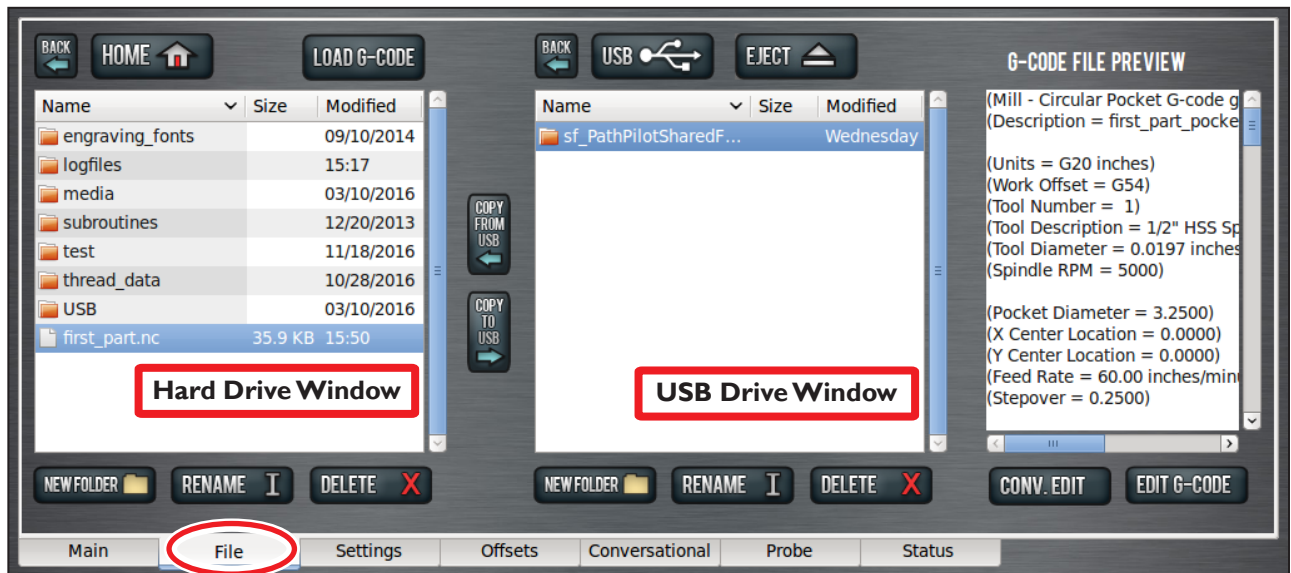
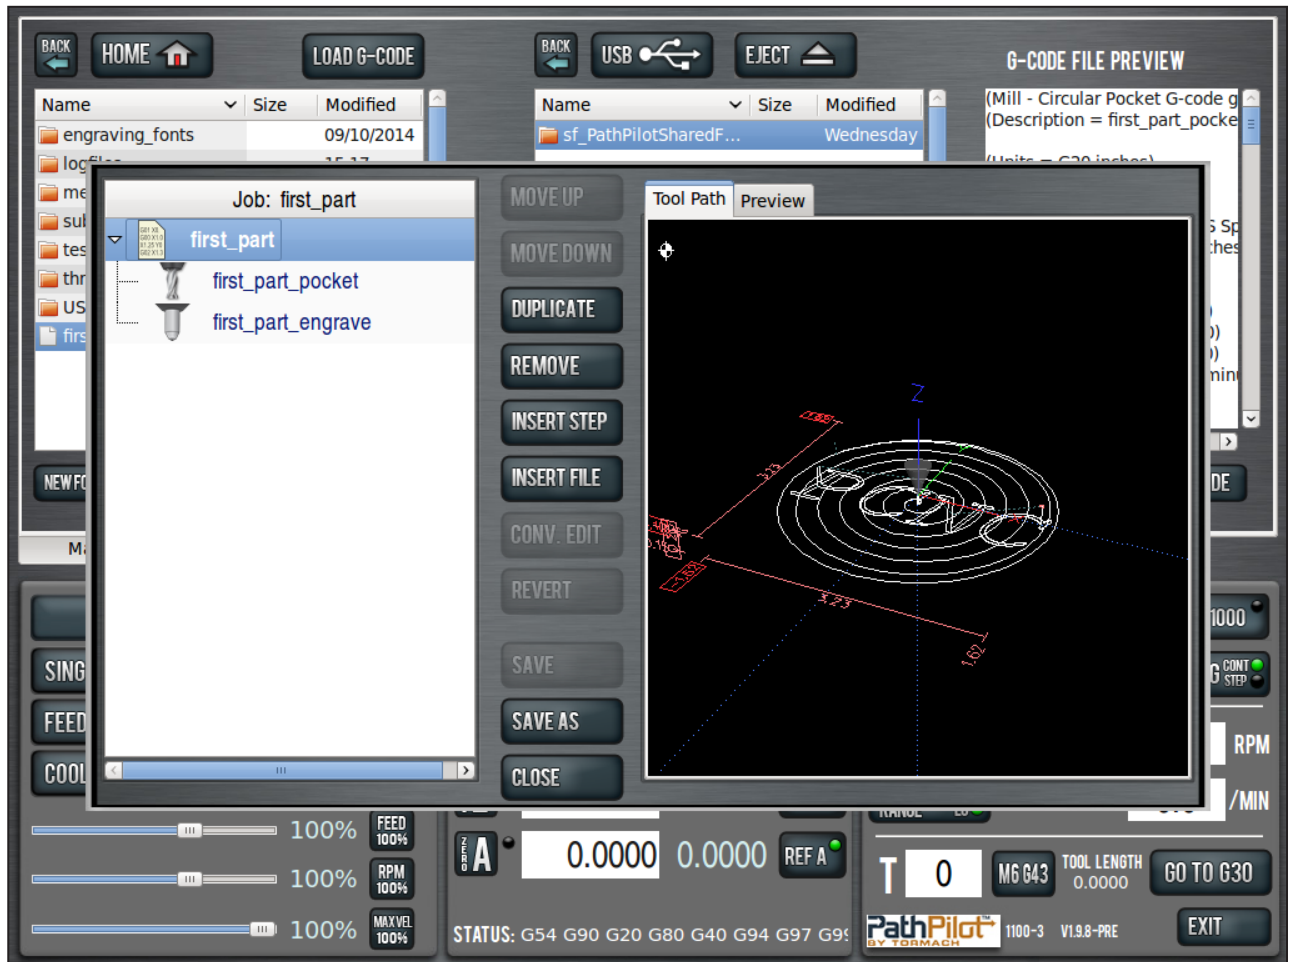

Figure 6.14
Figure 6.15
The *File* tab is used to transfer files to and from a USB drive, copy, delete, and rename files and folders (see **Figure 6.14**). The left window shows files and folders on the controller hard drive; the middle window shows files and folders on a removable USB drive.
Use the *New Folder*, *Rename*, and *Delete* buttons below the respective USB Drive Window and Hard Drive Window for file management (see **Figure 6.14**). To move files into a folder, right-click on the file and select cut or copy from the pop-up menu.
NOTE: Use Back to navigate backwards; use USB to jump to the highest (home) level (see **Figure 6.14**).
4. Highlight the file or folder to copy in the USB drive window; click *Copy From USB* (see **Figure 6.14**).
7. Click *Eject* to disconnect the USB drive from the controller (see **Figure 6.14**).
The *Load G-code* function is only available for files stored on the controller (see **Figure 6.14**).
1. Navigate to the desired .nc file in the hard drive window; highlight the file and click *Load G-code* (see **Figure 6.14**).
The *G-code File Preview* window displays the contents of the selected .nc file (see **Figure 6.14**). You can edit G-code in two ways on your PathPilot controller:
1. Highlight the file and click *Edit G-code* (see **Figure 6.14**).
To edit the G-code using conversational programming, highlight the file and click *Conv. Edit* (see **Figure 6.14**). A job assignment editor opens the file in a new window for editing the contents of the file. The left window shows job assignments of a program; the right window previews the program (see **Figure 6.15**).